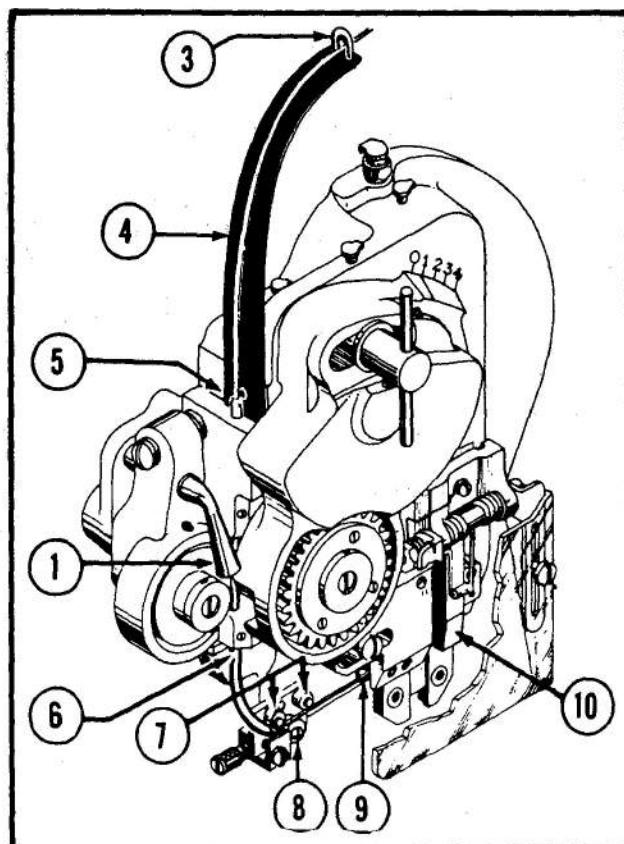

Figure 2—Threading Wire on Head
1. HOW TO THREAD WIRE ON HEAD (See Fig. 2)
- Raise oiler retainer (not shown) on spring wire guide and disengage wire feed gears by raising (to the left) the gear throwout handle (1) to its open position.
- Thread the wire through the spring wire guide loop (3), down over the spring wire guide (4), through oiler felt in retainer and then insert end of wire into the upper wire tube (5).
- Push the wire down through the upper wire tube, past the wire feed gears, and into and through the lower wire tube (6) until the wire appears at the bottom opening of the lower wire tube.